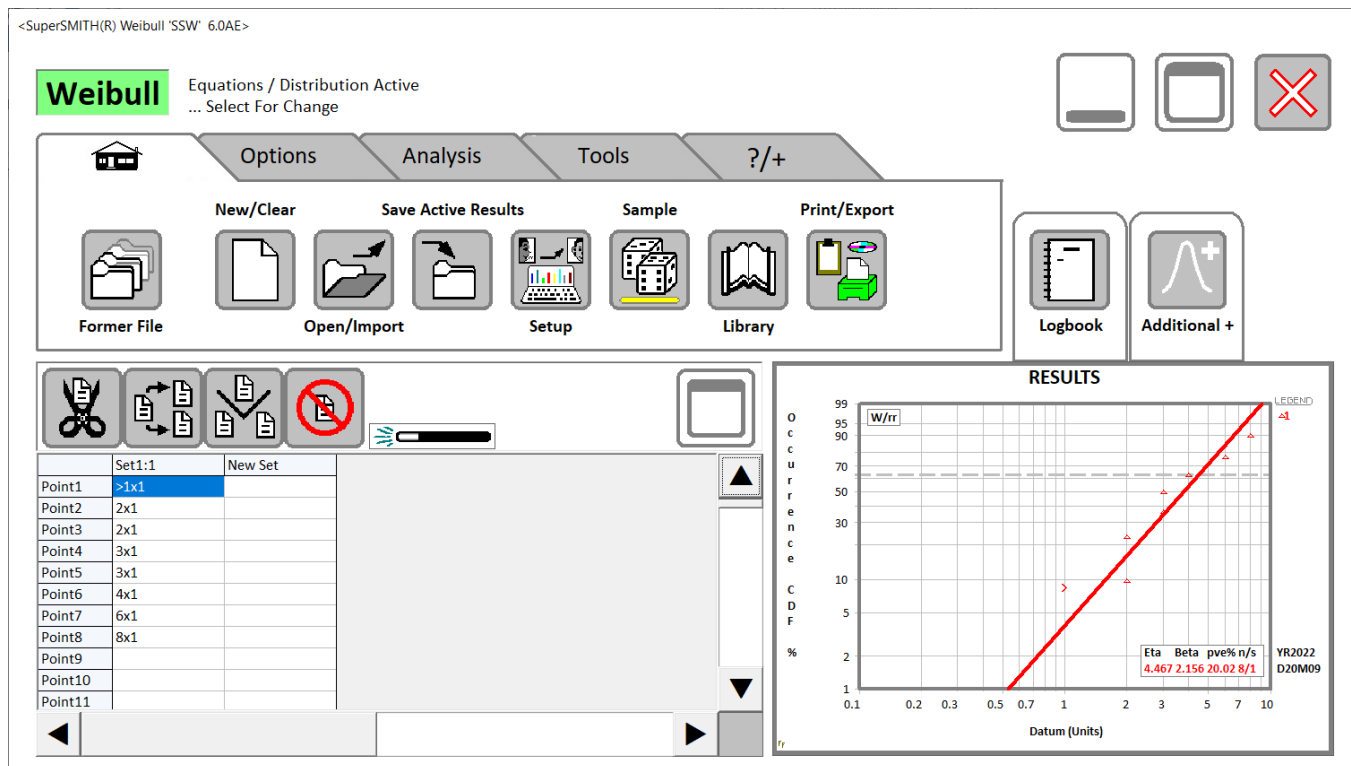

Figure 2: New SuperSMITH Weibull Main Screen Icon Layout.
We recommend you make a backup copy of any original installation files before starting. **REMOTE INSTALL:** Available for networks ... contact Fulton Findings for info. **DIRECT INSTALL:** Power up the PC (Windows or simulator). Have the SS **setup.exe** and other installation files available. Load onto the PC by running **setup.exe** and following the prompts. After install, within the SuperSMITH group, select the SuperSMITH Weibull program. This is the SMITHW.EXE file or the icon showing plotted data with fit and confidence lines. Initially select “Yes” to agree to usage conditions, and automatically advance to the Main Screen (Figure 1 below shows the former icon layout, Figure 2 on the next page shows the new icon layout).
Use single selecting (single touching for touch screens) mostly in SuperSMITH. Double selecting is discouraged to minimize hand stress. We will be using life data mostly for illustration, but any type of measured data with variability can be analyzed. **For this tutorial if using the DEMO software, all input data must only be loaded from a file previously saved by a FULL SuperSMITH software program (provided with the software).** If using the FULL software, this is not a concern but maybe easier to do. All file names shown here are on a single text line for easy copying. Reminder: Figure 1 shows the new SSW icon layout for standard pointing device use, and Figure 2 shows an optional larger icon layout with tabs for touch screen use.
Start the SSW software by choosing Start from the Windows™ Main Screen, then the SuperSMITH group, then Weibull. On first use, select “Yes, I agree...” if you are asked and if you agree to the software use terms. You should see the Main Screen (Figure 2 below) with equation label (“Weibull” at first), some tabs, some icons, a data grid and a results box.
- B. A probability plot should appear. Select the plot to enlarge. The plot should resemble the one in Figure 2. Your solution should indicate Eta=4.467, Beta=2.156. If not ... check the data and/or reset the method to Weibull “rank regression” standard. Select the full-window plot or use the <ESC> key to shrink the plot which will take you back to the Main Screen.